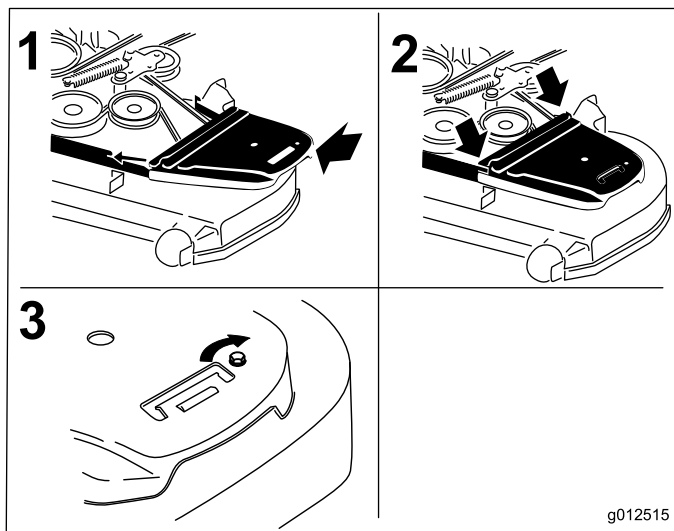

Figure 75
12. Install the belt covers and the bolts attached to them (Figure 75).